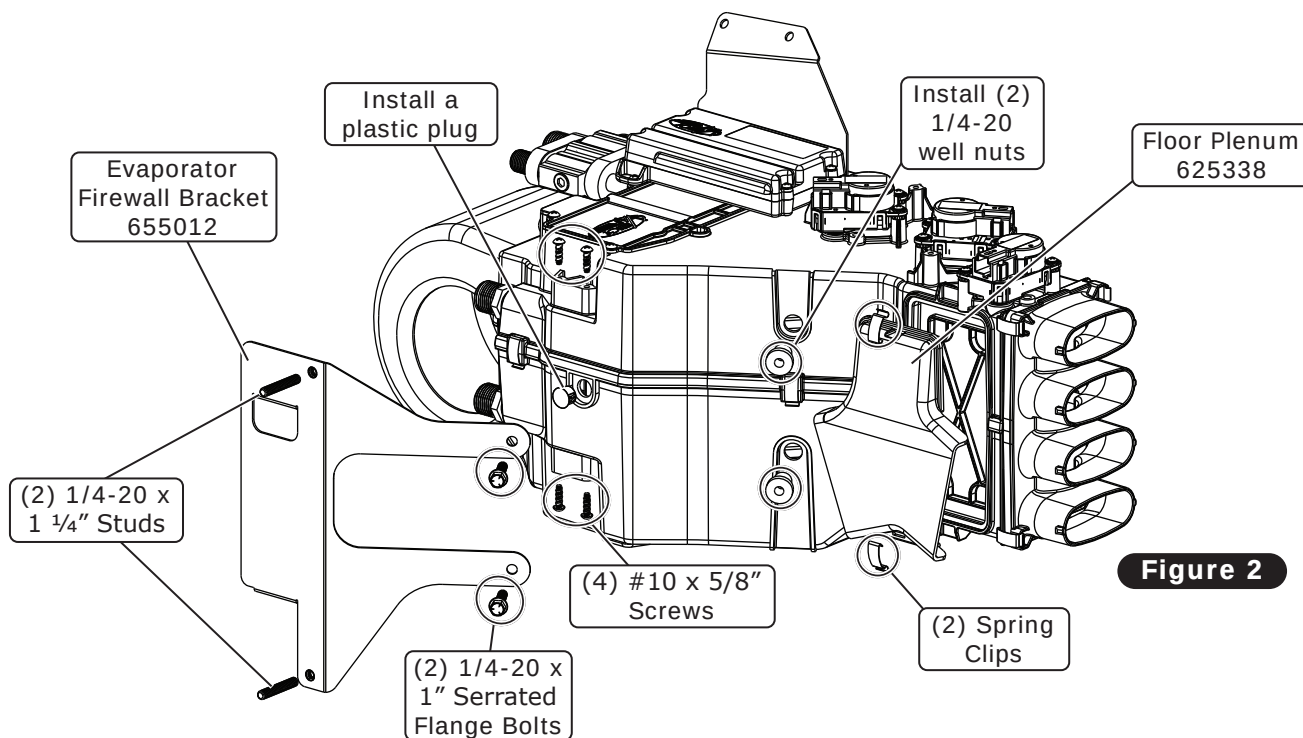

Figure 2
5. Install a plastic plug into the location shown in Figure 2, below.
6. Install (2) 1/4-20 well nuts as shown in Figure 2, below.
7. Install the floor plenum onto the evaporator module using (2) spring clips (See Figure 2, below).
8. Install the evaporator firewall bracket onto the evaporator module using (4) #10 x 5/8" screws and (2) 1/4-20 x 1" serrated flange bolts (See Figure 2, below).
9. Install (2) 1/4-20 x 1 1/4" studs onto the evaporator firewall bracket as shown in Figure 2, below.